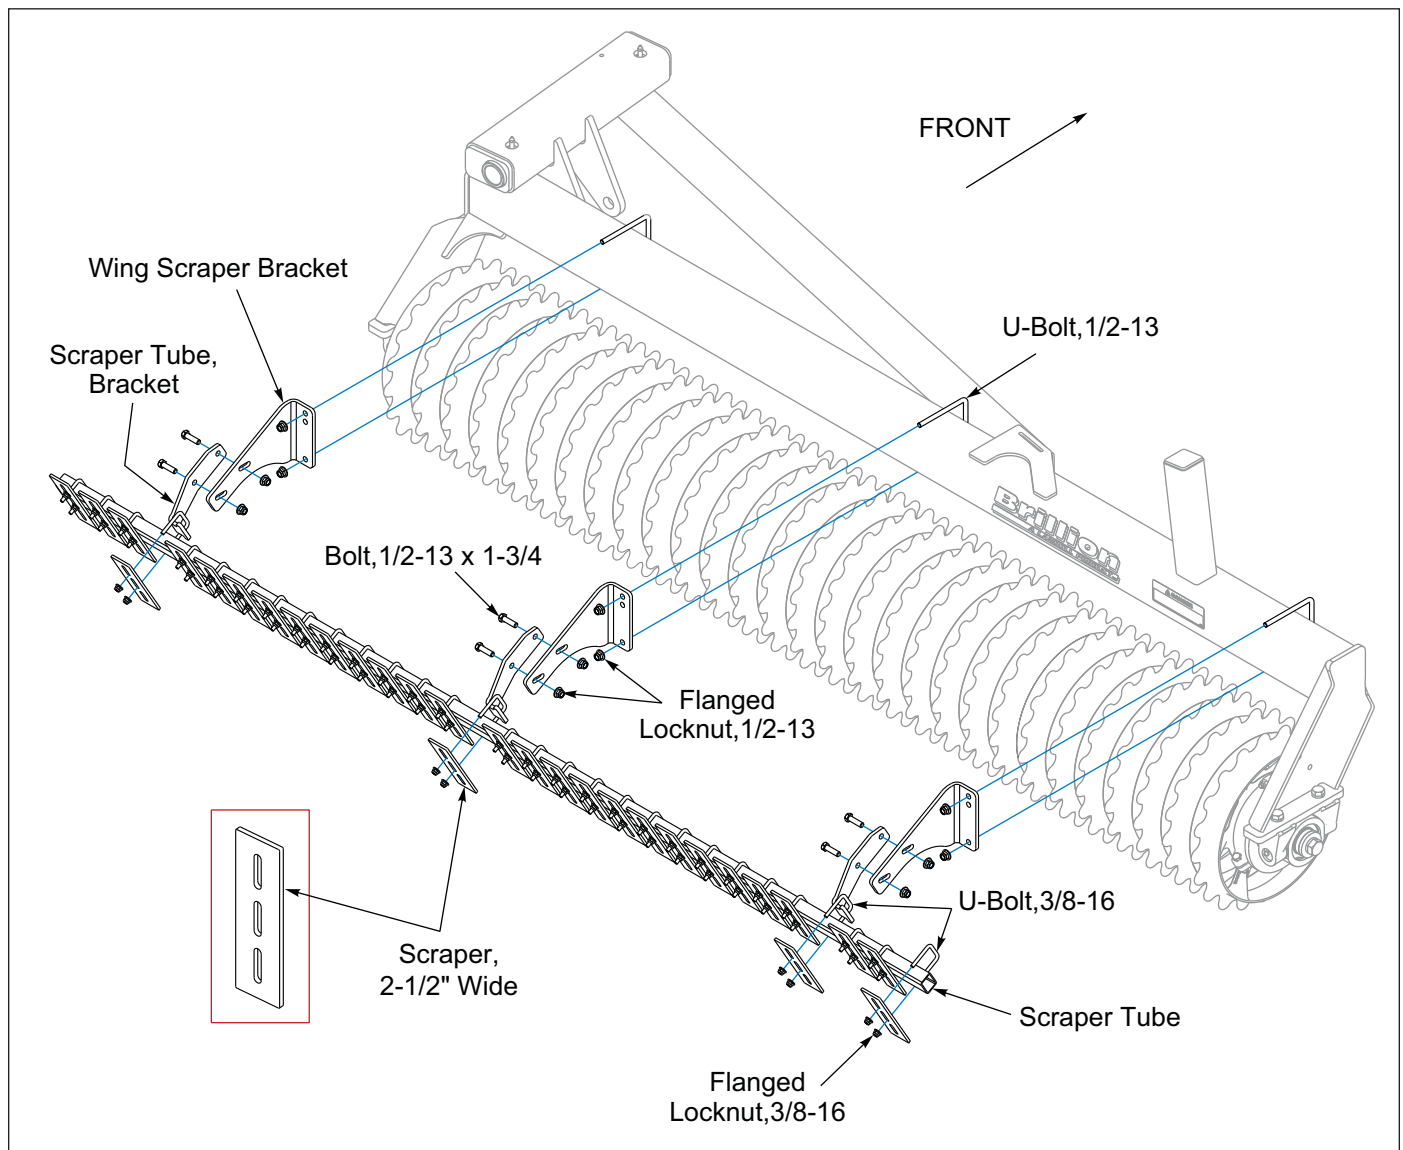

Figure 2-21: Wing Scraper Installation
1. Place Wing Rollers on level ground. From the front of the Wing Frame Tube, assemble the 1/2-13 U- Bolts over the wing frame tube and through the Wing Scraper Brackets with Flanged Locknuts. **See Figure 2-21.** Do not tighten.